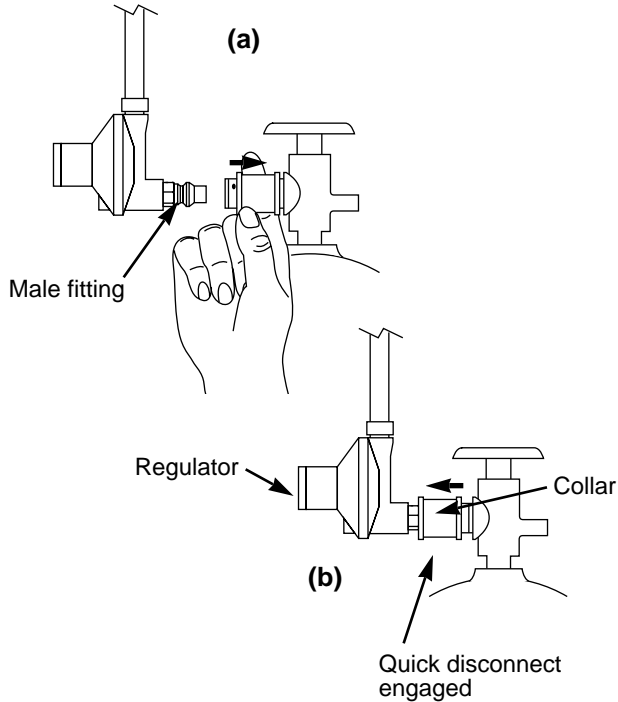

Figure 6
- c) Connect the hose to the tank. Route the hose so it does not interfere with the scale indicator rod. Slide back the collar of the quick disconnect on the tank valve. Figure 6 (a). Push the male fitting of the regulator into the quick disconnect, and maintain pressure. Slide the collar closed. Figure 6 (b). If it does not engage or lock, repeat procedure. Gas will not flow unless the quick disconnect is properly engaged.